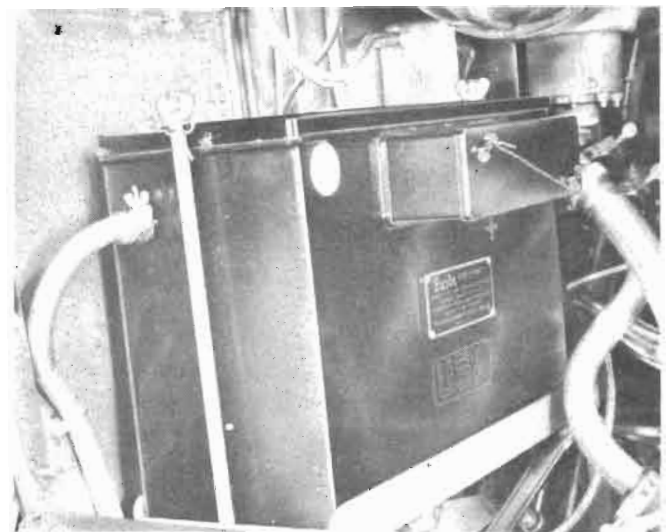

Figure 261 — Storage Battery Installed
(2) STORAGE BATTERY.—(See figure 261.)— A 12-volt, 68-ampere hour, type D-6 storage battery is installed in a covered metal case secured to a support on the right forward side of the fire wall. The battery is readily accessible for inspection and removal by removing the right engine cowling. The cover to the battery case is fitted with a rubber or neoprene gasket which forms a sealed air chamber inside the case to prevent the escape of corrosive gas. Provision is made to neutralize and vent these battery gases outside, as they would damage the metallic structure of the airplane. This is accomplished by a rubber or neoprene tube leading from an air intake in the bottom of the engine cowling to one side of the battery case, and a tube from the opposite side of the battery case leading to a glass jar containing a cellulose sponge disc 1 inch thick and saturated with a solution of tri-sodium phosphate (Na_3PO_4). (A solution of sodium bicarbonate [baking soda] may be substituted for this purpose and the sponge may be of felt.) This solution in the jar will neutralize any acid in the battery gases, and a tube from the top of the jar to a vent in the bottom of the cowling will carry the neutralized gas outside the airplane. The jar is accessible through an opening in the lower right side of the engine cowling.